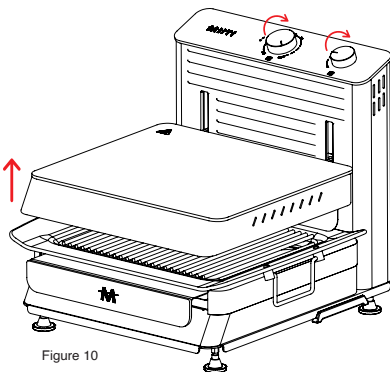

Figure 10
- Turn the on/off switch on the back of the product to position (I).
- To move the adjustable cooking section, turn the lower-upper distance adjustment knob clockwise and bring the upper section to maximum height. (Figure 10)